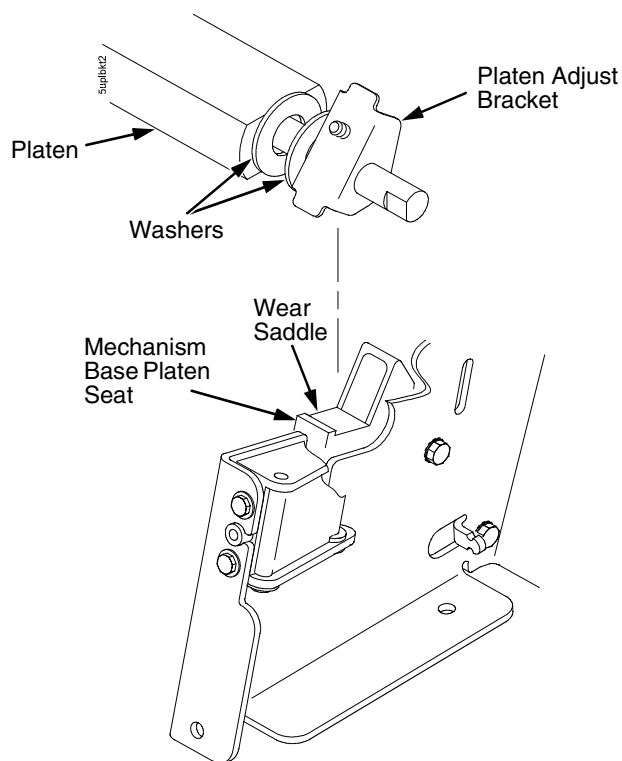

Figure 36. Positioning the Platen Adjust Brackets
4. Make sure the two wear saddles are set flush into the corners of the mechanism base platen seat. (See Figure 36 below.)
8. Insert the shorter platen shaft through the left platen adjust bracket and through the opening in the left side plate. Rotate the longer shaft into the opening in the right side plate and position the platen adjust brackets as shown in Figure 36.